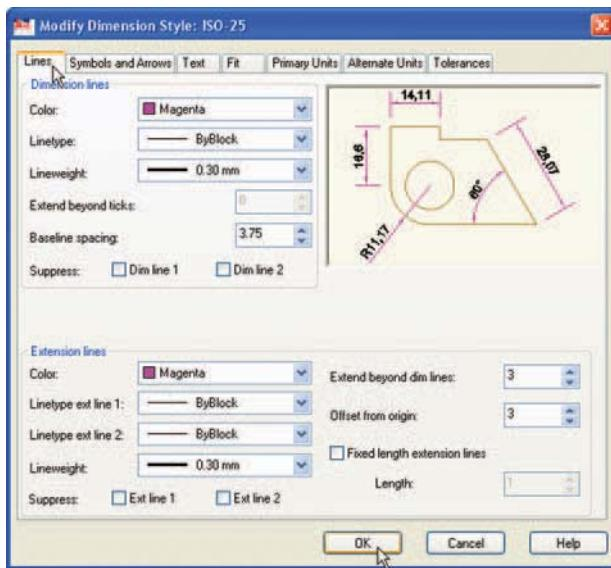

Fig. 4.11 The setting for **Lines** in the **Modify Dimension Style** dialog
3. The **Modify Dimension Style** dialog appears (Fig. 4.11). A number of tabs show at the top of the dialog. Click the **Lines** tab and make settings as shown in Fig. 4.11. Then click the **OK** button of that dialog.